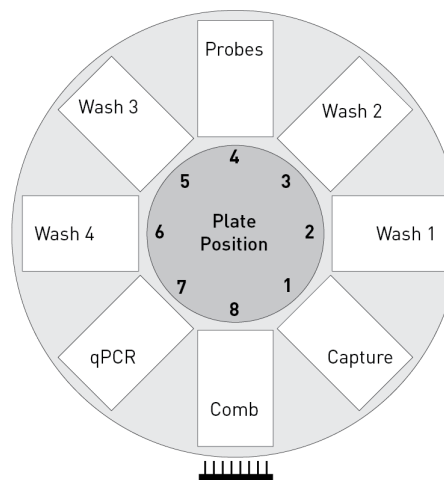

Figure 5 Plate positions in the MagMAX™ Express-96 turntable
- Press **START** to initiate plate loading. Follow the prompts on the display screen to load each plate onto the MagMAX™ Express-96 turntable, starting with “Comb” (see Figure 5). Slide each plate into the plate hold-down (if present).